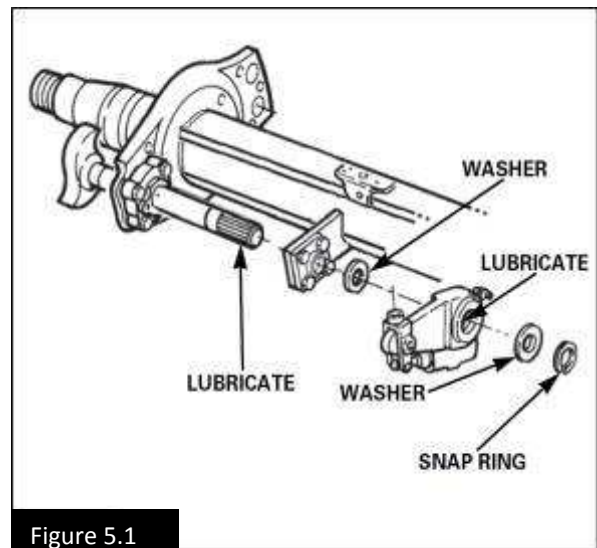

Figure 5.1
2. Lubricate the camshaft and slack adjuster spline with Multi purpose chassis grease. Install the slack adjuster, washers and snap ring. Figure 5.1.
3. Check the radial play of the cam shaft bushing. If it exceeds 0.80 mm replaces the bushes. Figure 5.1